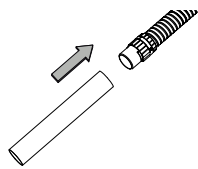

Fig 6
4. Connecting the wand: Insert the wand into the other end of the hose (Fig. 6).